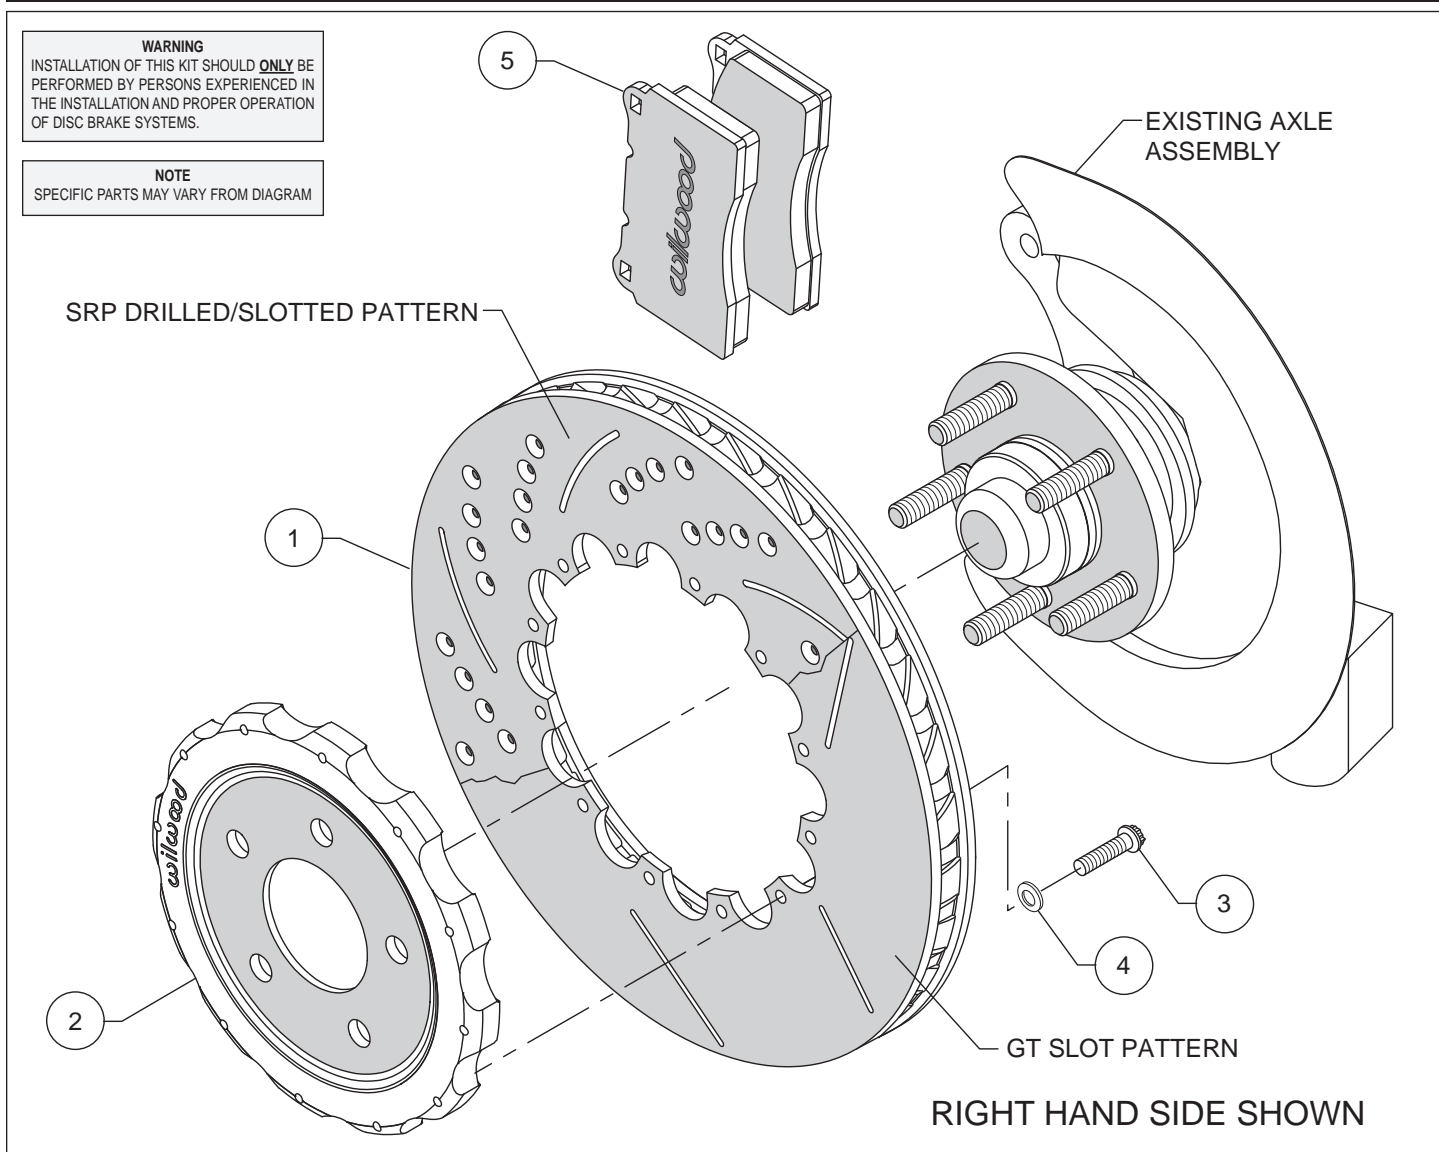
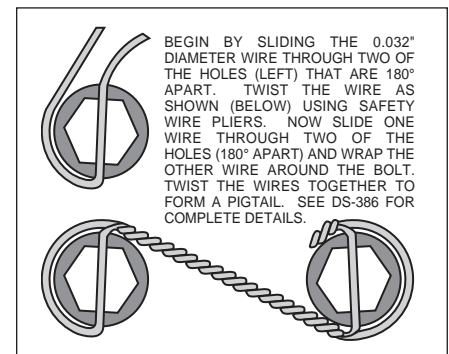

Figure 1. Typical Installation Configuration
Figure 2. Safety Wire Diagram
Assembly Instructions (numbers in parenthesis refer to the parts list and Figure 1 on the preceding page):
- Orient the rotor (1) and the hat (2) as shown in Figure 1. Attach rotor to hat using bolts (3) and washers (4). Using an alternating sequence, apply red *Loctite*[®] 271 to the threads, and torque to 155 **in-lbs**. For an added measure of security, the bolts may be safety wired using standard 0.032 inch diameter stainless steel safety wire as shown in Figure 2. Please refer to Wilwood's data sheet DS-386 (available at www.wilwood.com/Pdf/DataSheets/ds386.pdf) for complete safety wire installation instructions.
- Remove the OE pads from the caliper and insert the Wilwood brake pads (5) into the caliper, with the friction material facing the rotor.